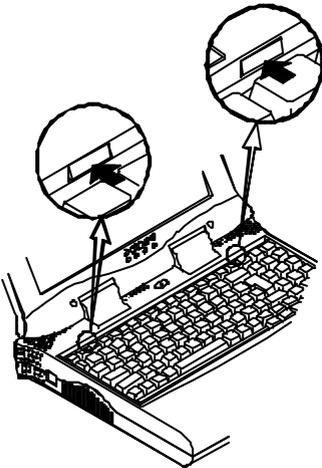

Figure 2-6.1
- Press the two keyboard latches so that the keyboard can be elevated from its normal position (Figure 2-6.1).